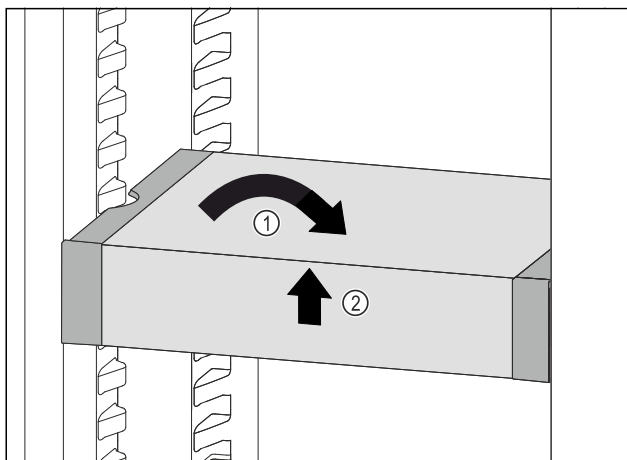

Fig. 104
- Set VarioSafe straight. Fig. 104 (1)
- Lift VarioSafe at the front. Fig. 104 (2)